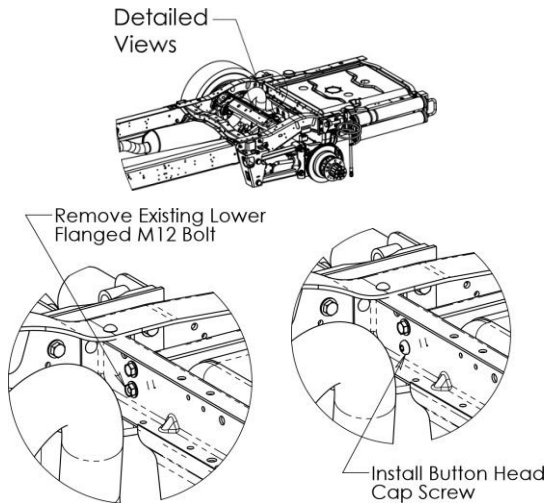

Figure 9. Cross-member bolt replacement
1. Remove lower factory cross-member bolt. Replace bolt with Button Head Cap Screw M12-1.75x35. Torque to **75-92 ft-lbs.** See Figure 9.